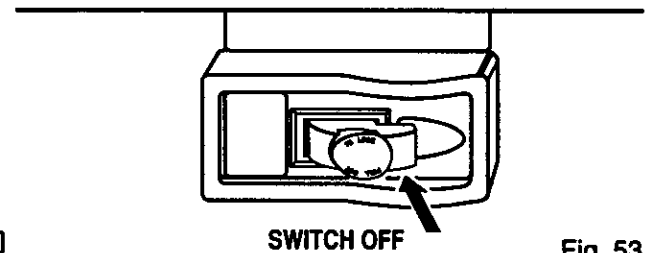

Fig. 53
- When work is completed, press switch off and remove switch key. See Figure 53.